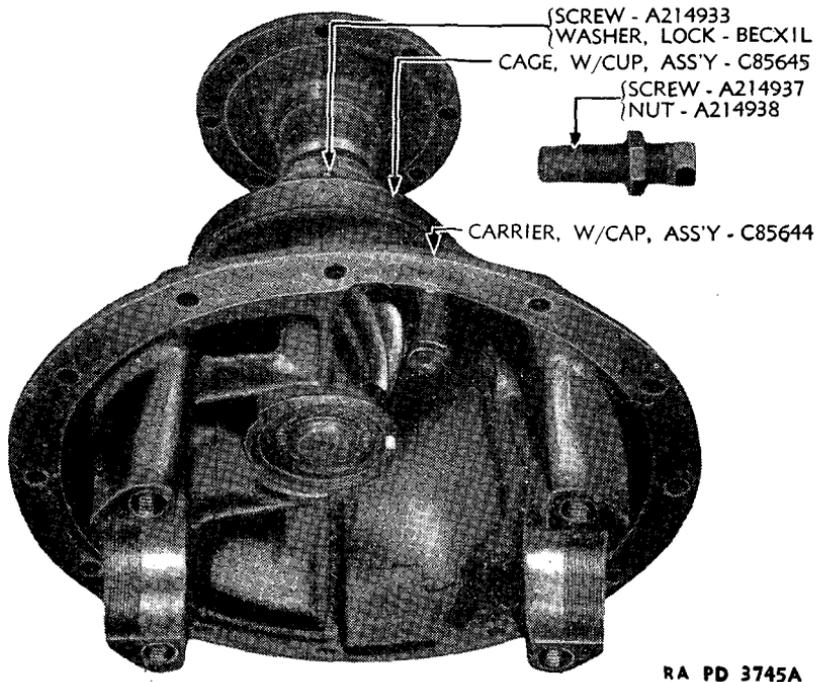

FIGURE 61.—Rear axle drive pinion and bearing cage, exploded.
*b. Drive pinion assembly* (fig. 61).—Tools: press, wood blocks, pipe collar, screw driver, 1 $\frac{1}{4}$ -inch open end wrench, 1 $\frac{1}{2}$ -inch socket wrench, pliers,  $\frac{5}{8}$ -inch socket wrench.